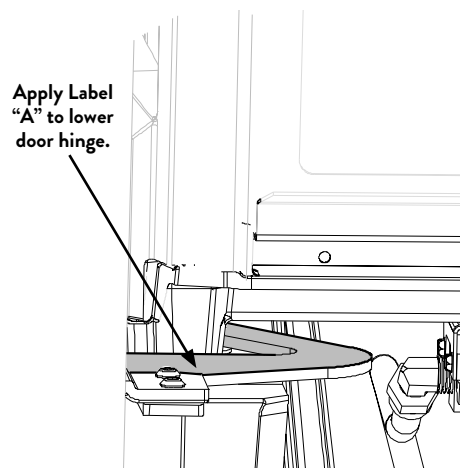

Figure 7.6. Conversion label "A" location.
- Label A: apply to the Lower Door Hinge. Fig. 7.6.